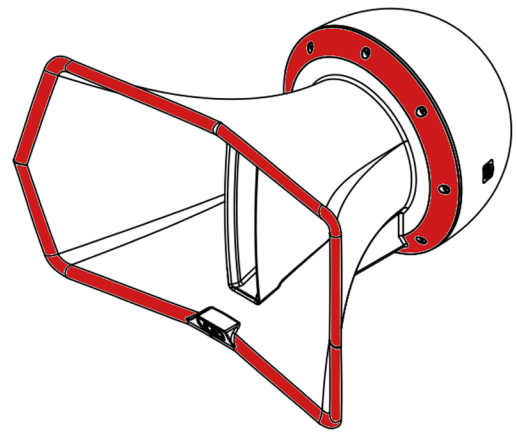

Figure 2.1: Safe Handling Positions
- To remove from the transport case, each person should hold the Air Vantage on each side, with one hand on the edge of the horn flare, and the other supporting the weight of the drivers to the rear as shown in figure 2.1